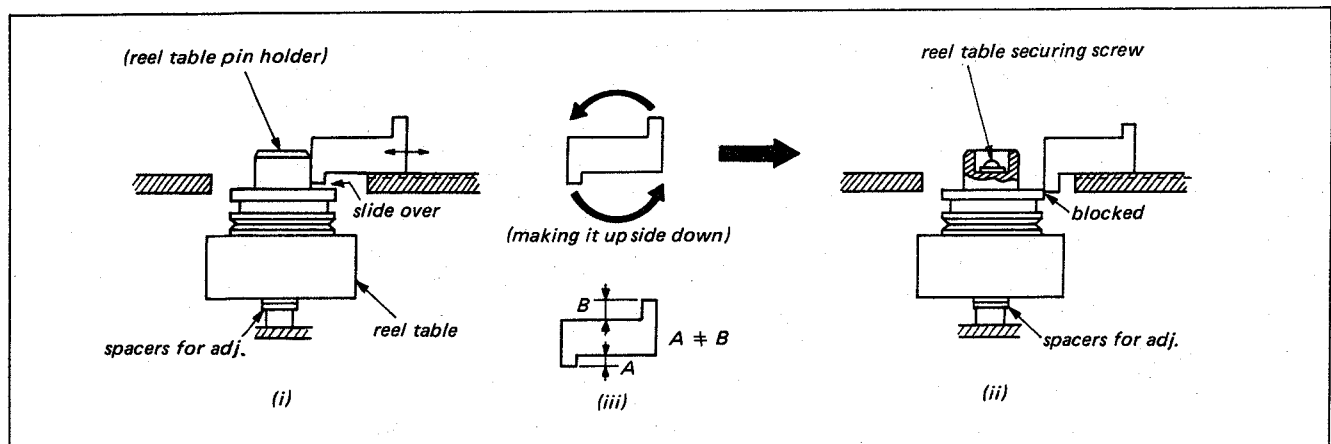

Fig. 4-2. Reel table height adjustment (EJECT mode)
4. Inspect the Reel Table Height Adj. Jig so that it has two probes as shown in Fig. 4-2 (iii). One probe is longer while the other probe is shorter.
If the reel table has correct height, the shorter probe of the jig can slide over reel table, leaving a space between jig and reel table as shown in Fig. 4-2 (i), while the longer probe of the jig is blocked, and cannot slide over reel table as shown in Fig. 4-2 (ii).